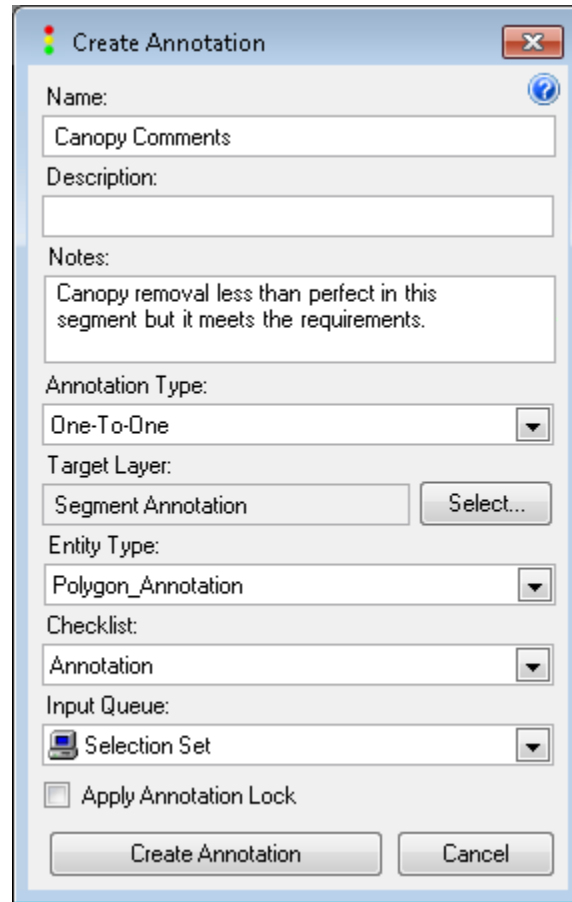

Figure 19-3 The populated Create Annotations dialog
- Click OK on the **Create Layer** dialog and on the **Select Layer** dialog to return to the **Create Annotation** dialog. Leave the Checklist set to *Annotation*. It will now appear populated with the layer you just created (Figure 19-3).